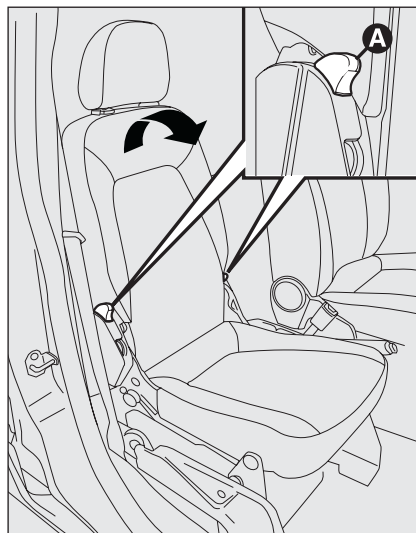

fig. 21
- ☐ pull the two levers **A-fig. 21** on the sides of the seat and tip it forward following the indications of the arrow;